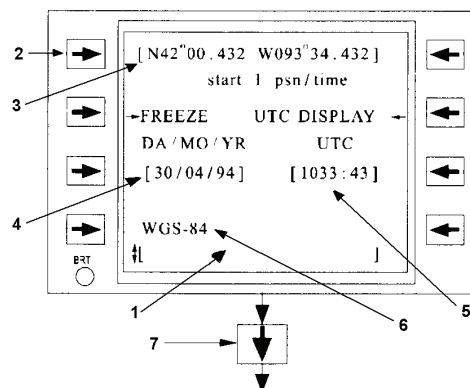

Figure 3B-19. Start 1 Position/Time Initialization
1. Verify or enter position, time, date, and chart datum on the Start 1 page. Refer to Figure 3B-21 and Table 3B-13. Normally the GPS will provide the correct position, time, and date